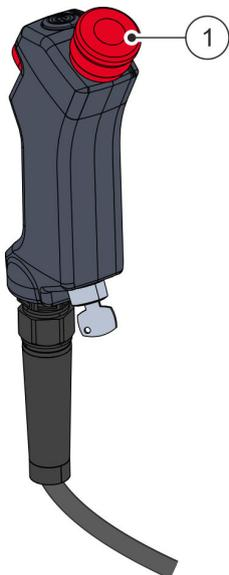

Fig. 31 Emergency stop button
Pressing the emergency stop button **Fig. 31** / ① stops all the robot's movements (category 1 emergency stop according to DIN EN 60204-1:2019-06) and applies the robot brakes.